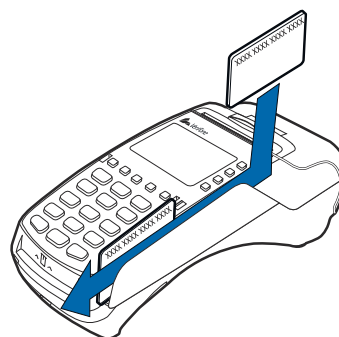

Figure 33 Using the Magnetic Card Reader
- 2 To ensure a proper read of the magnetic swipe card, the user should insert the magnetic card from the top of the unit, as shown in Figure 33.